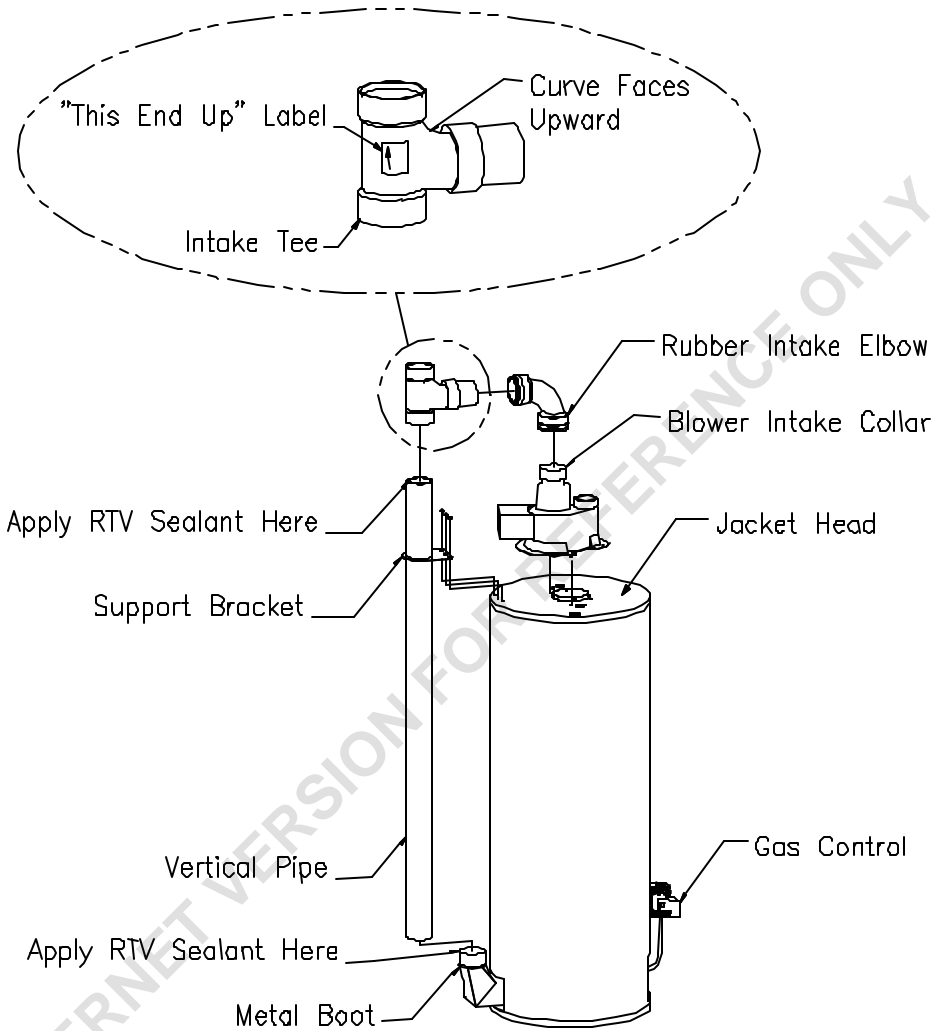

Figure 1
1. Refer to Figure 1, "Vent Assembly Illustration" to install intake venting as described below.
6. Using a level to ensure that the Vertical Pipe is straight up and down, secure the Vertical Pipe to the Jacket Head using the Support Bracket and three (3) self-drilling screws provided. **NOTE: Correct vertical positioning of the Vertical Pipe is Important.**